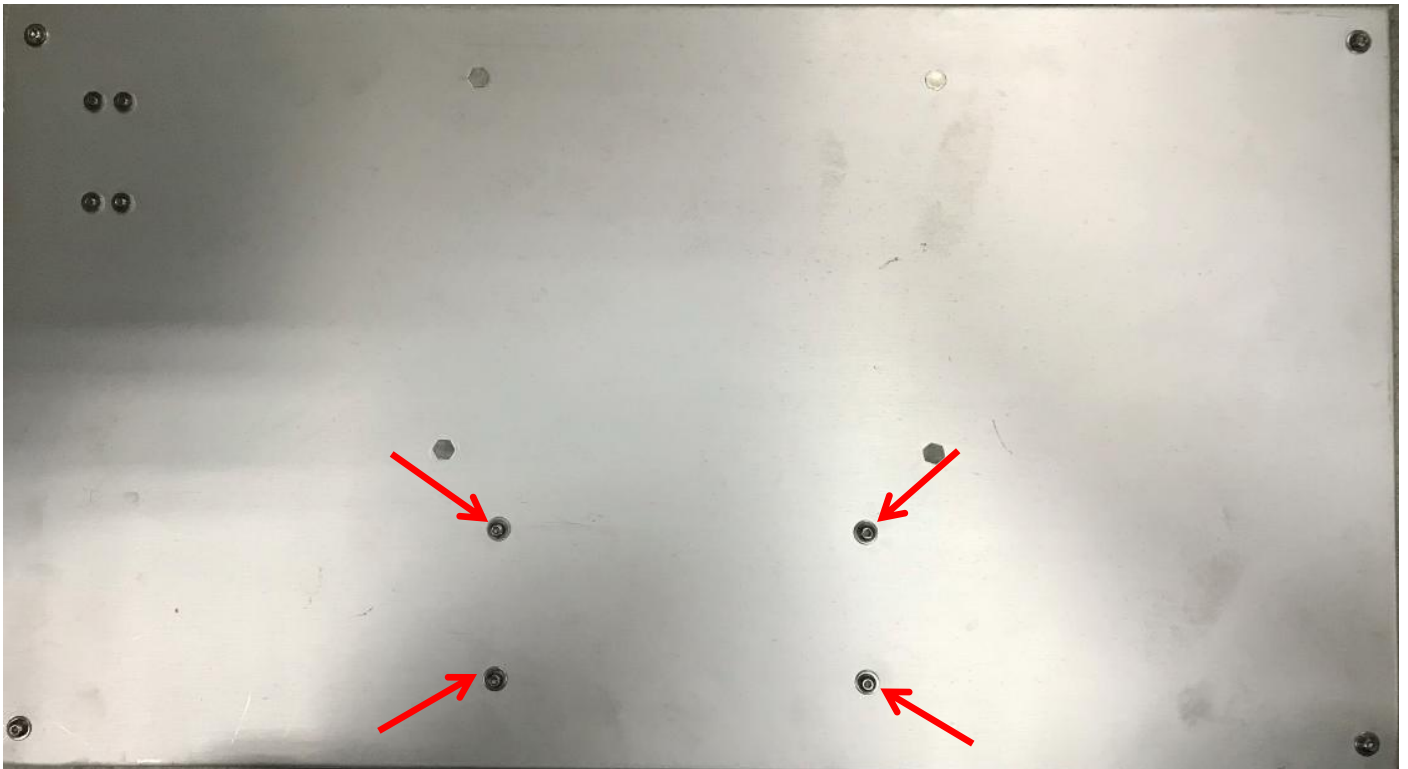

Figure 11 Trigger Board Power Supply removal
13. Flip the Trigger Board Tray. Loosen 4 x Screws to remove Trigger Board Power Supply as below Figure 11.